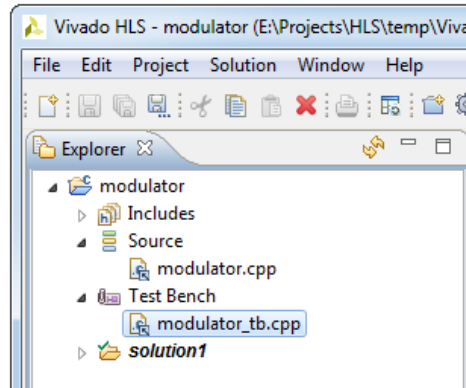

Figure 2.15: Test Bench folder with modulator_tb.cpp file
3. Repeat the same procedure for the **modulator_tb.cpp** testbench file. Therefore, in the Vivado HLS **Explorer** pane expand **Test Bench** folder and double-click on the **modulator_tb.cpp** file to open it, see Figure 2.15.